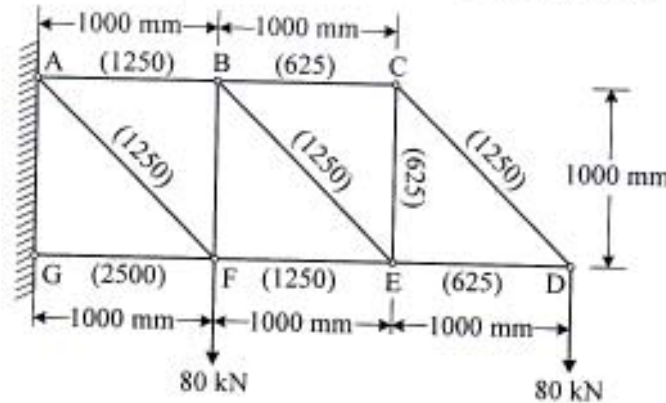

Fig. 5
5. The pin jointed cantilever truss shown in fig. 5 carries loads of 80 kN at D and F. the panels are 1000 mm long and 1000 mm high and the cross sectional areas in mm² are marked alongside each member. Determine the vertical displacement at D. Take $E = 200 \text{ kN/mm}^2$.